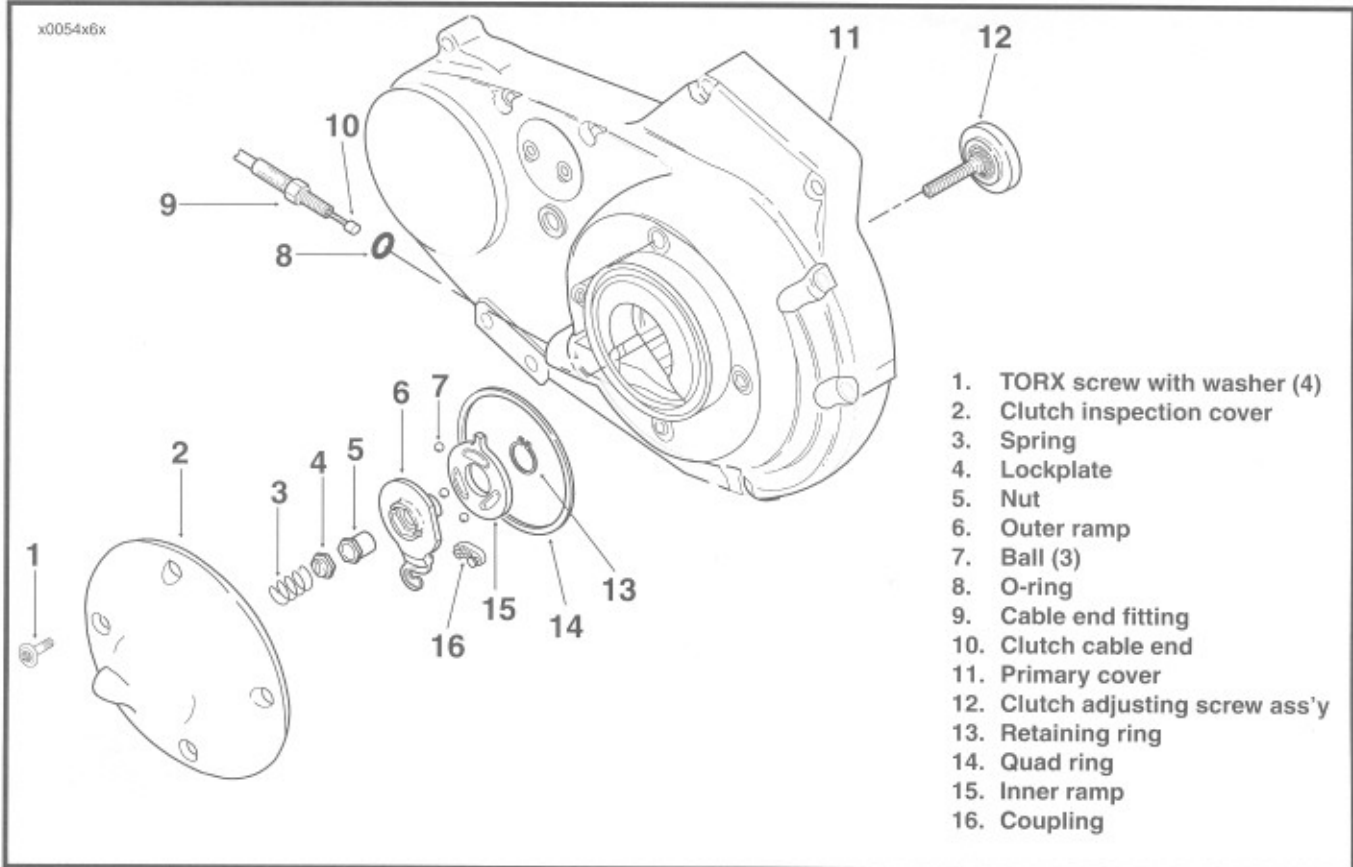

Figure 6-11. Clutch Release Mechanism
2. See Figure 6-11. Remove cotter pin (1) and loosen rear axle nut (2). Turn axle adjuster nuts (3) (on each side of rear fork) clockwise to decrease belt deflection (increase tension), or counterclockwise to increase belt deflection (decrease tension). Turn each adjuster nut exactly the same number of turns in order to maintain alignment of rear wheel.
4. After belt deflection is properly adjusted, tighten axle nut (2) to 60-65 ft-lbs (81-88 Nm) torque. Install cotter pin (1).
caution to avoid damaging or dislodging quad ring in primary cover. See Figure 6-11.
2. Slide spring with attached hex lockplate from flats of adjusting screw. See Figure 6-11.
CLEANING, INSPECTION, AND REPAIR (Figure 6-11)
ASSEMBLY (Figure 6-11)